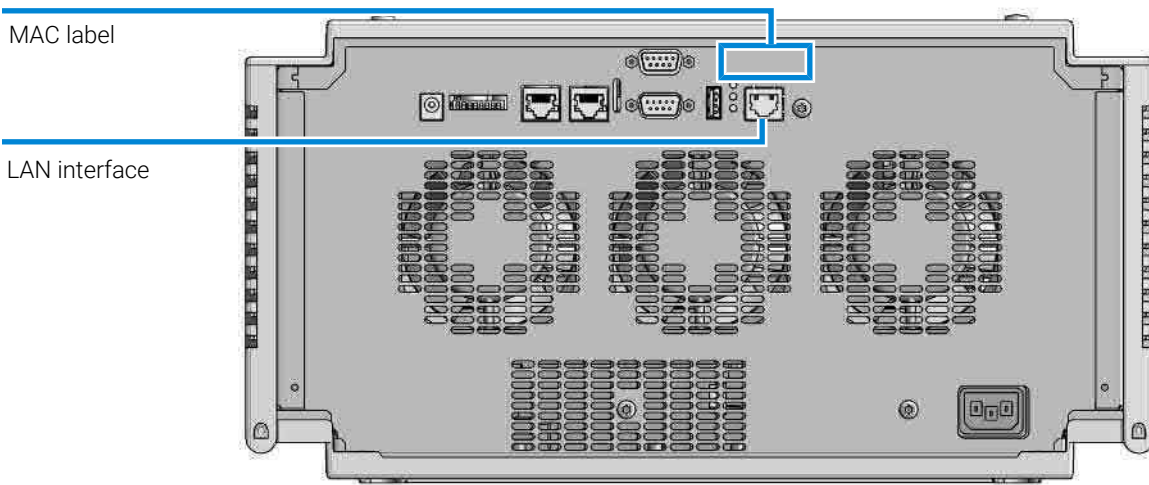

Figure 48: Location of LAN interface and MAC label
- 1 Note the MAC (Media Access Control) address for further reference. The MAC or hardware address of the LAN interfaces is a world wide unique identifier. No other network device will have the same hardware address. The MAC address can be found on a label at the rear of the module (see Figure 48 on page 434).
- 2 Connect the instrument's LAN interface (see Figure 48 on page 434) to